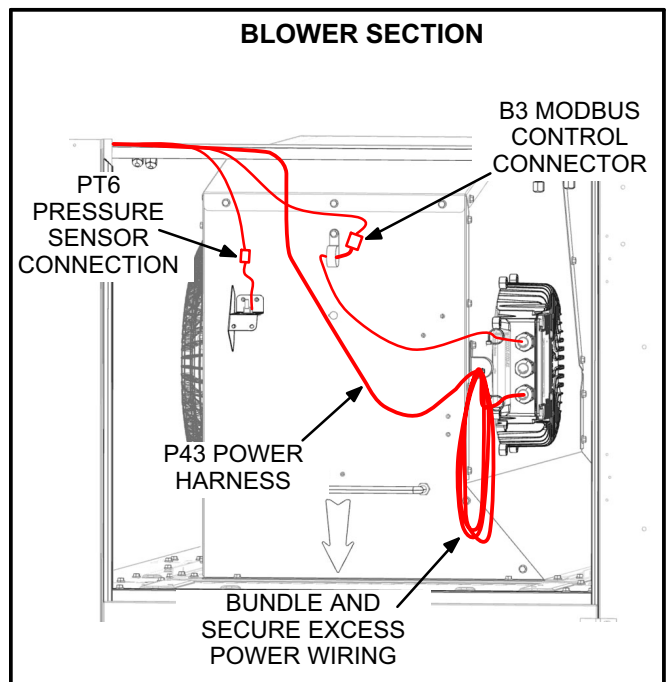

FIGURE 2
- 3- Disconnect B3 Modbus connection and PT6 connection in the blower section. See figure 2.
- 9- Connect P48, B3 Modbus, and PT6 connections as shown in figures 2 and 3.